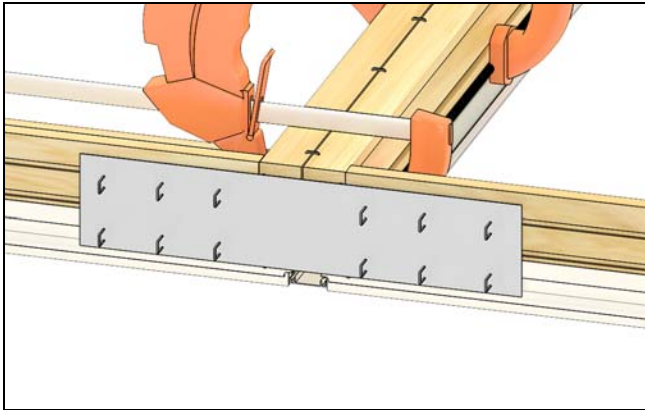

Figure 13
14. Staple the mull tin to the top and bottom of unit, avoiding corner keys. See Figure 13.